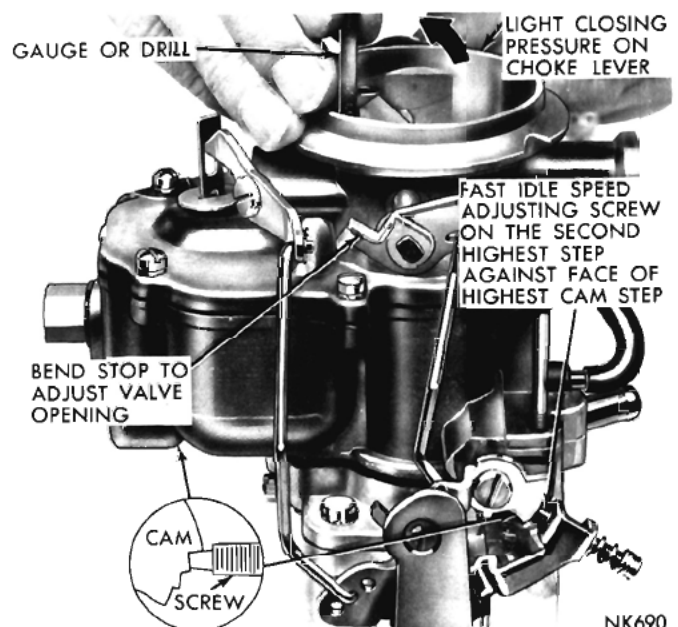

Fig. 13—Fast Idle Cam Position Adjustment
- (1) With the fast idle speed adjusting screw contacting the step on the fast idle cam shown in (Fig. 13), move the choke valve toward the closed position with light pressure. Insert a  $\frac{7}{64}$  inch (manual trans. or automatic trans.) drill or gauge between the choke valve and the wall of the air horn.
- (2) An adjustment will be necessary if a slight drag is not obtained as the drill or gauge is being removed.
- (3) If an adjustment is necessary, bend the stop of the shaft lever, using Tool T109-22, until the correct valve opening has been obtained. Refer to (Fig. 13).